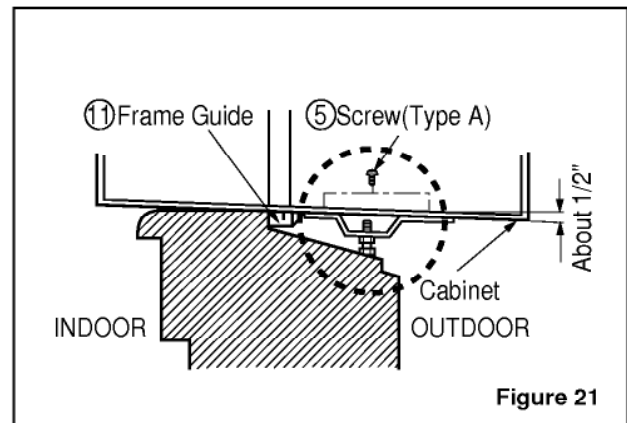

Figure 21
4. Select the position that will place the sill support near the outer most point on sill (See Figure 21)
5. Attach the sill support to the cabinet track hole in relation to the selected position using 2 Type A screws in each support (See Figure 21).